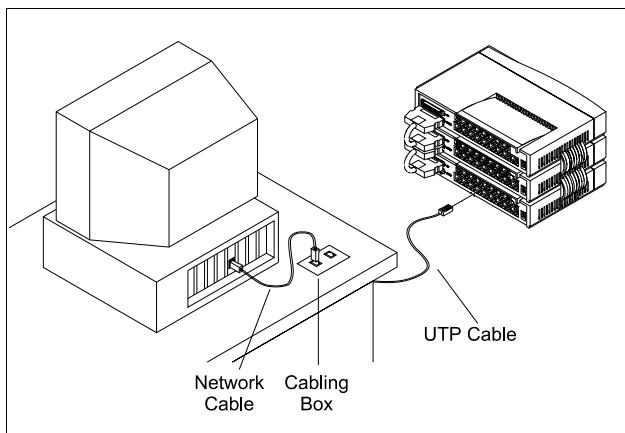

Figure 2-11 Connect UTP cable from hub to computers
2.3.3 Arrange the route for cabling if no fixed cabling box is provided. Otherwise, It's right way to connect from your computer to the fixed cabling box on your working surface and plug the other end of the cable to the RJ-45 connector on the hub, as shown in Figure 2-11.